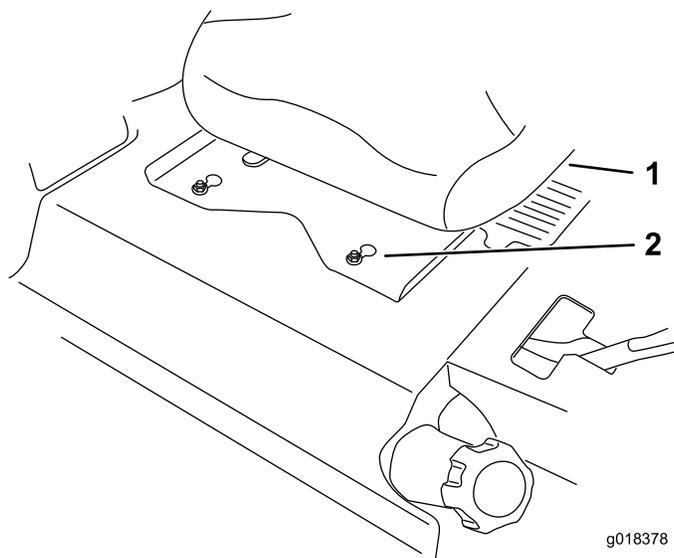

Figure 1
5. Slide the seat and seat plate forward to allow the front nuts to go through the key hole (Figure 1).